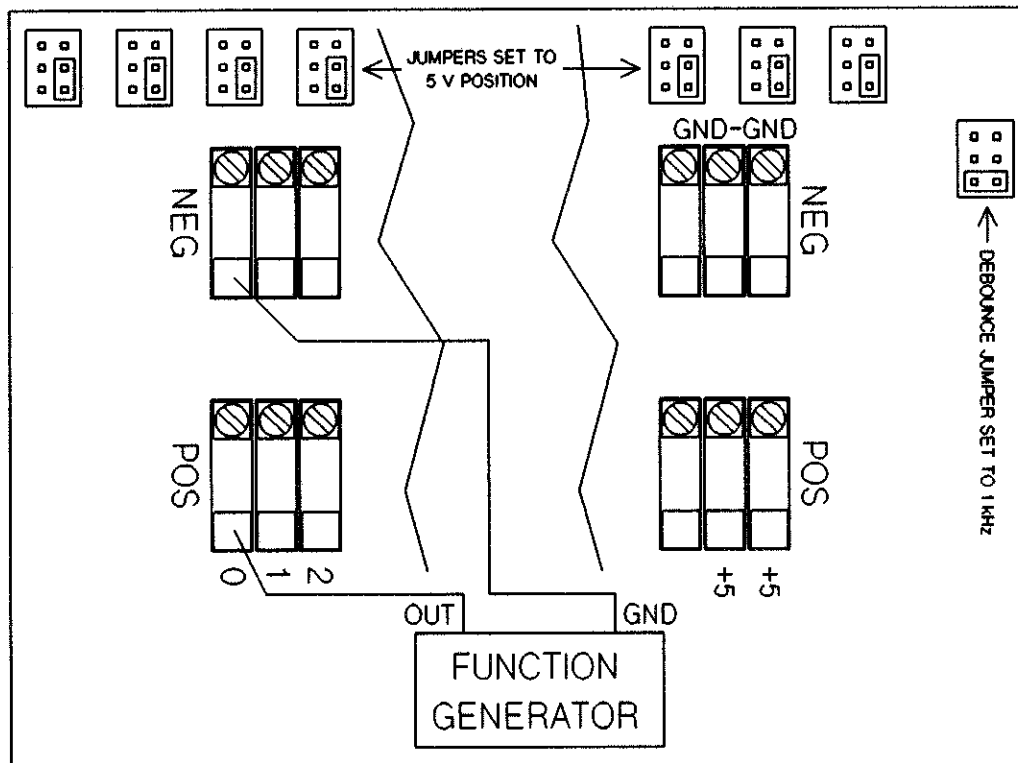

Figure 12-12 Even Channel Input/Totalize Test
4. Connect the function generator to the shorted even channel POS (positive) connections and the GND (ground) connections. The connections are shown in Figure 12-12.
5. On the test fixture, set the debounce jumper to the 1 kHz position, as shown in Figure 12-12.